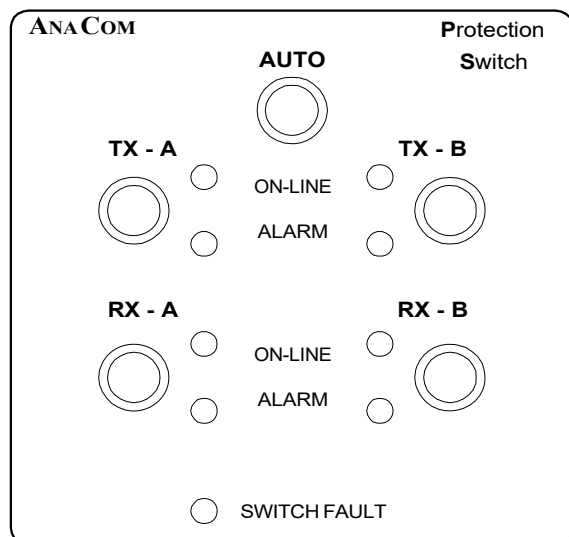

Figure 3-1 TX/RX Switch Panel Layout
The Protection Switch operation is very simple. There are five (5) push-button switches on the front panel which are used to manually set operating conditions of the Protection Switch. See Figure 3-1.
Figure 3-1 shows what this status screen looks like.